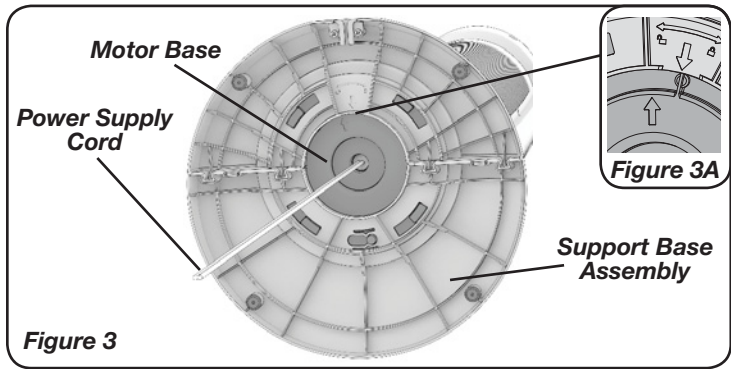

Figure 3
4. To secure the *Support Base Assembly* to the *Motor Base*, hold the *Motor Base* in place while turning the *Support Base Assembly* clockwise (towards to the locked symbol) until it no longer turns and locks in place. (*Figure 3 & Figure 3A*)